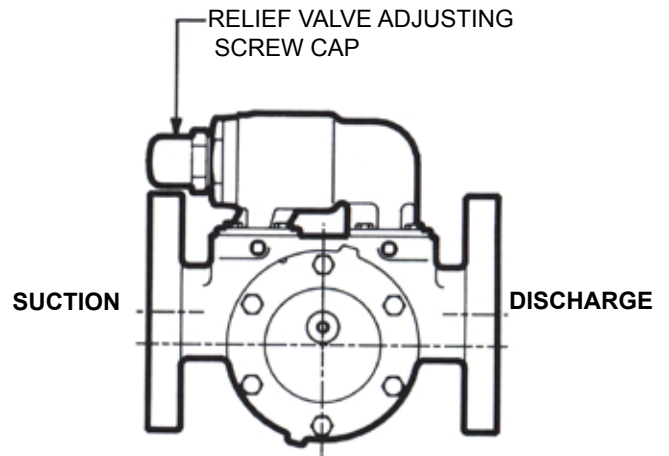

FIGURE 4
4. The relief valve adjusting screw cap must always point towards the suction side of the pump. See **Figure 4**. If the pump rotation is reversed, remove the pressure relief valve and turn end for end (see **PUMP ROTATION**, page 11 first for additional steps required for proper operation).